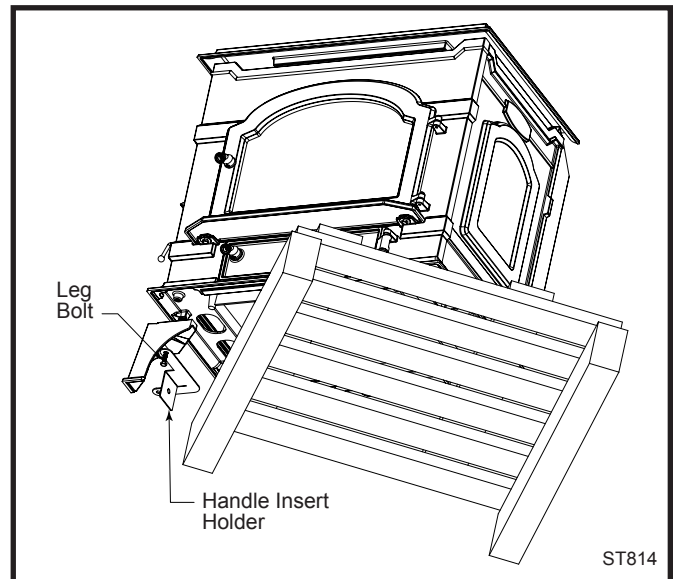

Fig. 25 Rotate stove on pallet to expose front left corner.
2. Rotate the stove counterclockwise until the front left corner overhangs the pallet and the leg-mounting hole is accessible. (Fig. 25)
3. Remove and discard the (4) 3/8-16 x 1/2" round head bolts that are in the leg holes on the bottom of the stove.